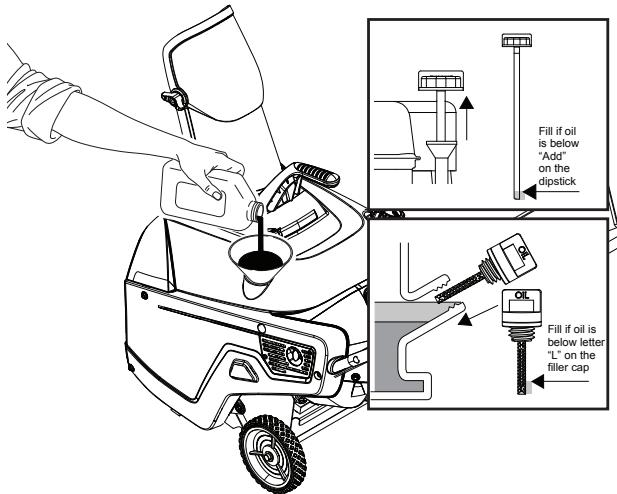

Figure 25
8. Unscrew the oil fill cap/dipstick and remove it (Figure 25).
9. With the snowblower in the operating position, carefully pour oil into the oil fill hole until "Full" on the fill cap/dipstick line (Figure 25).